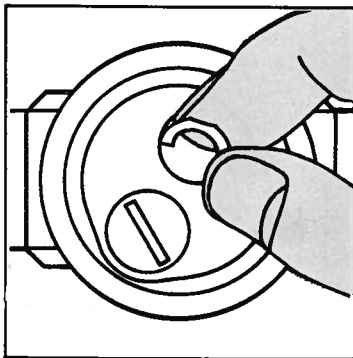
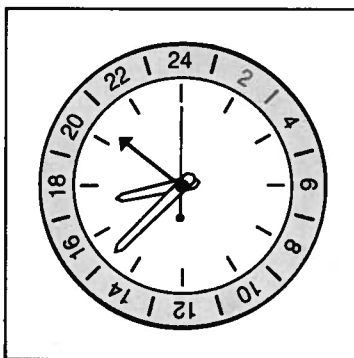

Fig. 1
Fig. 2
1. Lift setting handle (Fig. 1) when sweep second hand is exactly at 60 second marker (Fig. 2). All hands will stop instantly.